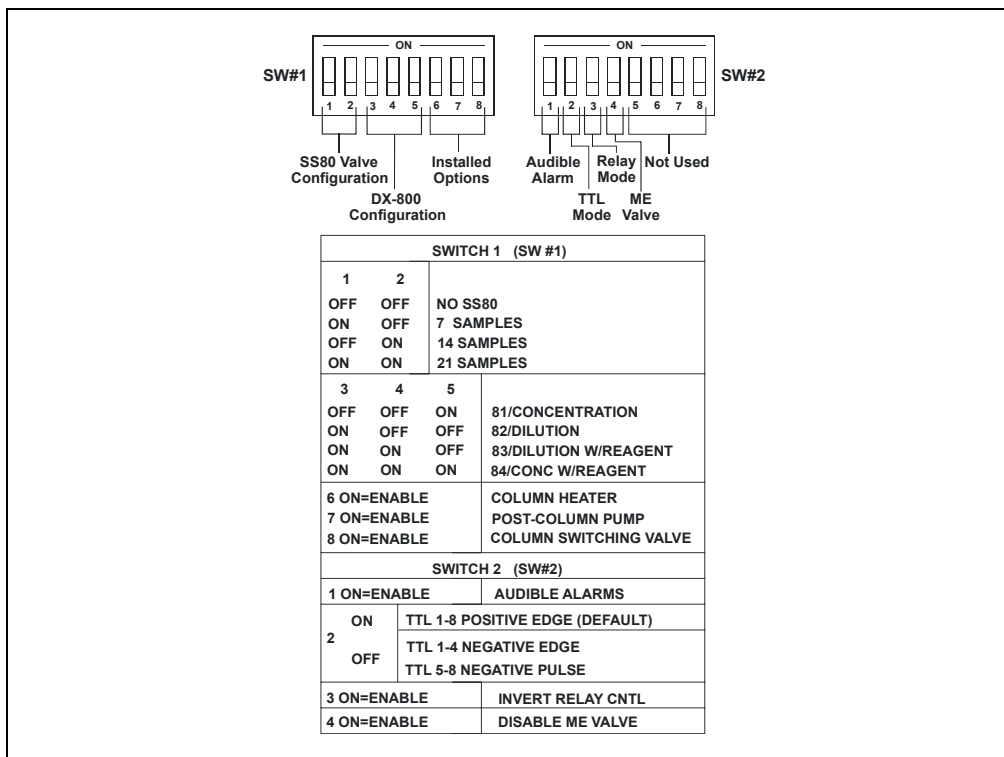

Figure 3-2. CC80 DIP Switch Settings
5. Check Figure 3-2, and then set the switches as required. The switches are numbered 1 through 8. The **off** position (logic-false) is down; the **on** position (logic-true) is up.